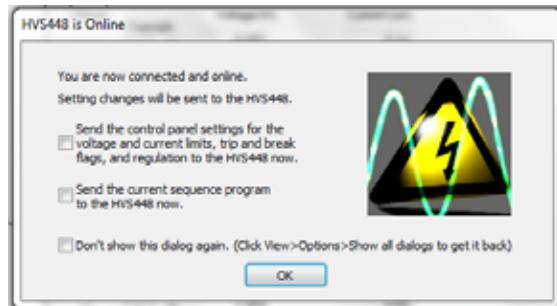

Figure 7. HVS448 is Online Dialog Box.
- a. If the HVS448 is brought online after the program is written and saved, you will see the **HVS is Online** dialog box (Figure 7). Check the **Send the current sequence program to the HVS448 now** box.